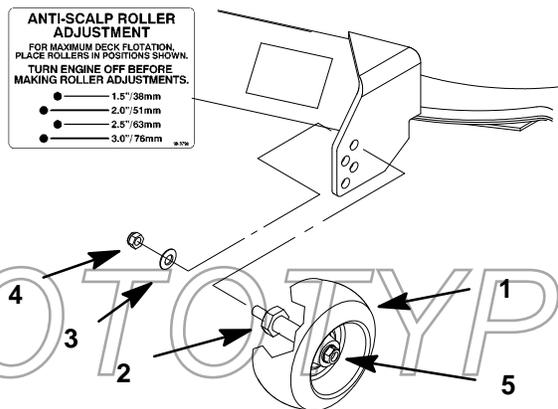

Figure 12
2. After adjusting height-of-cut remove nut and washer while holding stud with wrench (Fig. 12).
3. Select hole so gage wheel is positioned to the nearest corresponding height-of-cut desired (Fig. 12).
4. Reinstall the stud nut and washer (Fig. 12).
Note: Do not remove the wheel nut and washer (Fig. 12).